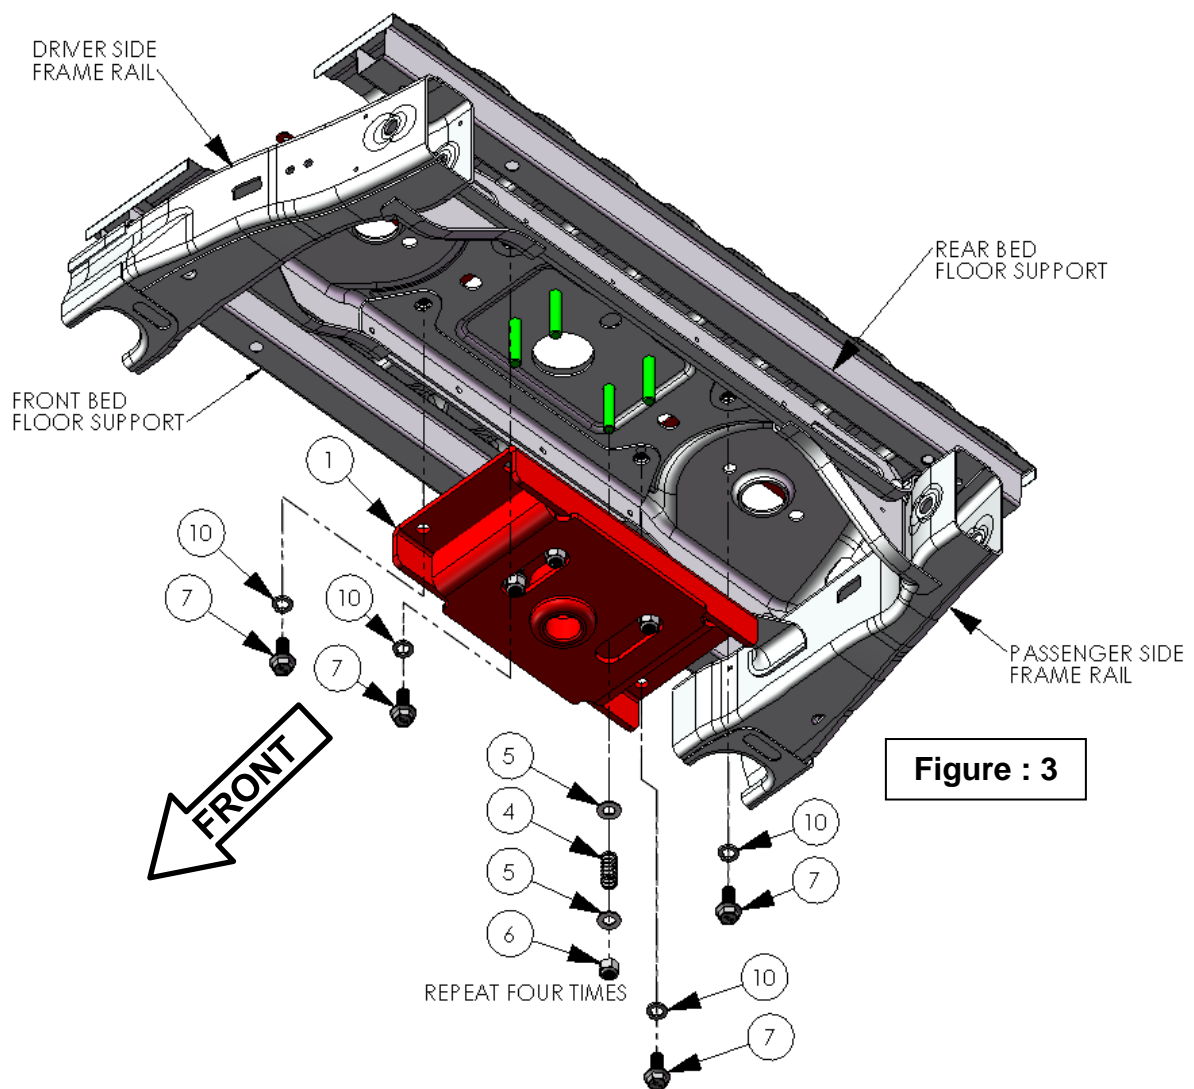

Figure : 3
7. Using an extra set of hands, lift center section (#1) into place and tighten four flange head bolts (#7) with four M16 lock washers (#10) until center section (#1) is completely seated against the bottom of the cross member with center section (#1) cup through the hole in the cross member as well as the floor of the truck bed. (See Figure 3). **Note: For best towing performance, ensure center section (#1) is square to the cross member and frame rails of the truck before tightening flange head bolts (#7) down.**
9. Once safety chain loop holes are drilled and deburred with hand file, safety chain loop U-bolts (#3) can be dropped down through the holes from the top side of the truck bed. From bottom of hitch, install flat washer (#5), then spring (#4), then flat washer (#5), then nylon lock nut (#6). See Figure (1). Tighten until three threads of the safety chain loops U-bolts (#3) are visible from the bottom of the nylon lock nut (#6).